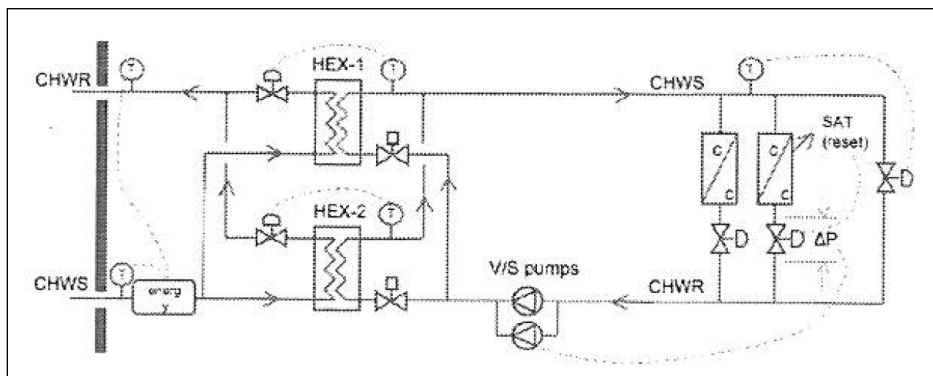

Figure 3: Indirect ETS Configuration (with Dedicated HEX Control Valves)
- Figure 3: 2008 IDEA District Cooling Best Practice Guide, 5.3.2, Figure 5-5